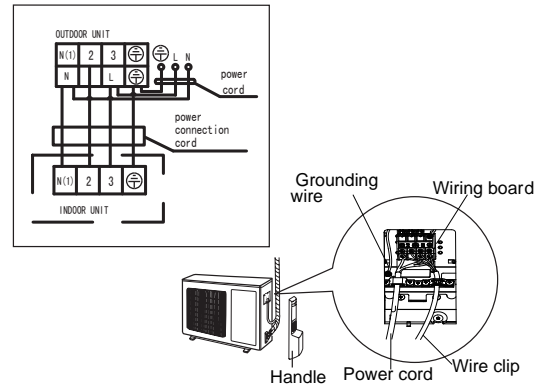

Fig.23
- (1) Remove the wire clip; connect the power cord to the wiring terminal according to the color; fix them with screws. (As show in Fig.23)